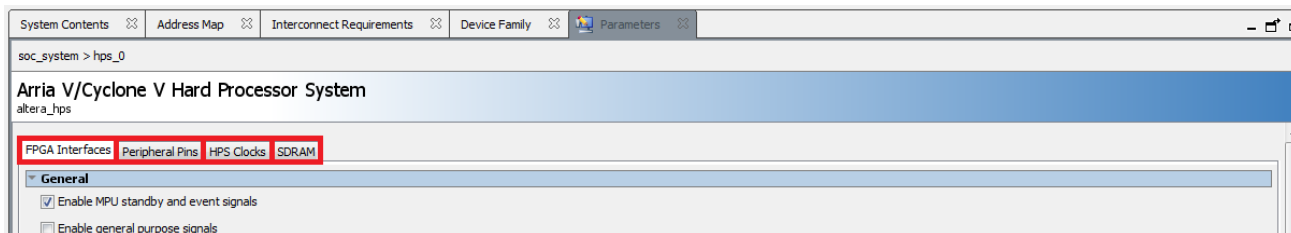

Figure 7-4. HPS Component Parameters
15. Open the HPS' parameters and have a look around. There are 4 tabs that control various aspects of the HPS' behaviour, as shown on Figure 7-4.